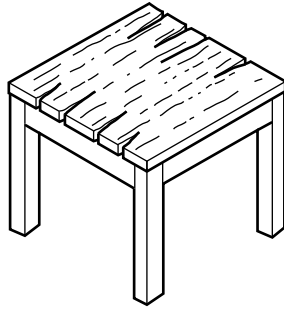

Fig. 4
- 8 Fig. 4 shows a small table made from hardwood.